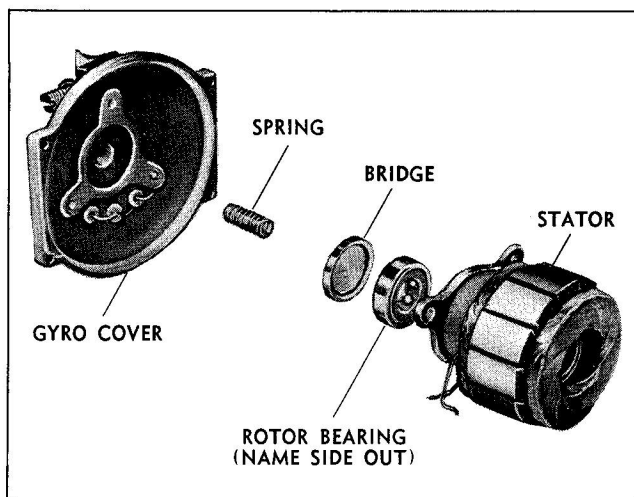

Figure 2-19 Exploded View of Gyro Cover and Stator Assembly
(2) Unsolder the three leads at the lugs on the stator and resolder the leads to the lugs on the new stator, following the color coding of figure 2-19.